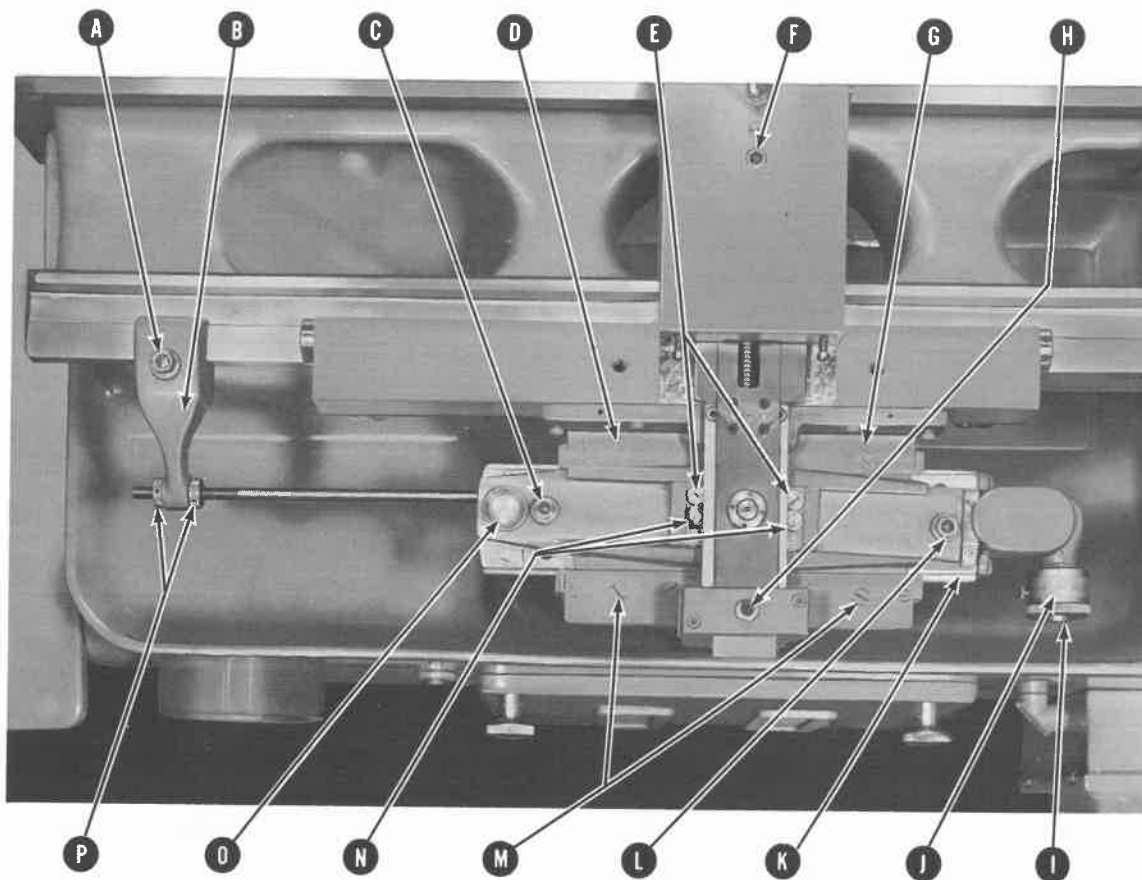

FIGURE 10. Taper Attachment
2. Loosen drawbar clamp (H) Figure 10.
3. Push slide (K) all the way toward the headstock.
4. Position bed bracket (B) and tighten clamp screw (A).
5. Tighten knurled nuts (P).
6. Loosen lock nuts (C) and (L).
7. Set swivel for required taper by turning knob (I) and observing graduations in magnifying lens (O). Scale is graduated in both degrees and taper per foot. For fine adjustment use vernier dial (J) which is graduated in minutes.
8. Tighten lock nuts (C) and (L).
9. Tighten drawbar clamp screw (F).
1. Loosen drawbar clamp (H) and set swivel at (E).
2. Loosen locknuts (N) Figure 10.
3. Rotate eccentric studs (E) until the 4 shoe bearings will just roll as the slide is pushed back and forth.
4. Retighten lock screws (N).
5. Loosen lock nuts on the bottom of eccentric studs (G) and (M).
6. Straight stud (D) is used with eccentric stud (G) to obtain parallel alignment of slide (K) with the back of the carriage. A surface gage with dial indicator may be used to check the parallelism.
7. Tighten locknut on eccentric stud (G).
8. Adjust eccentric studs (M) so that bearings will just roll as slide is moved back and forth.
9. Tighten locknuts on eccentric studs (M).